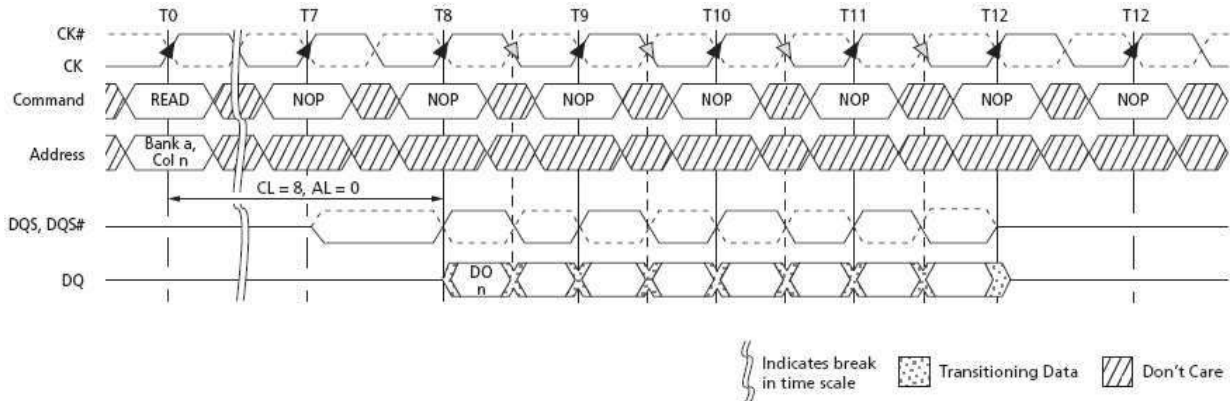

Figure 4-56: READ Latency
During READ bursts, the valid data-out element from the starting column address is available READ latency (RL) clocks later. RL is defined as the sum of posted CAS additive latency (AL) and CAS latency (CL) ($RL = AL + CL$). The value of AL and CL is programmable in the mode register via the MRS command. Each subsequent data-out element is valid nominally at the next positive or negative clock edge (that is, at the next crossing of CK and CK#). Figure 4-56 shows an example of RL based on a CL setting of 8 and an AL setting of 0.